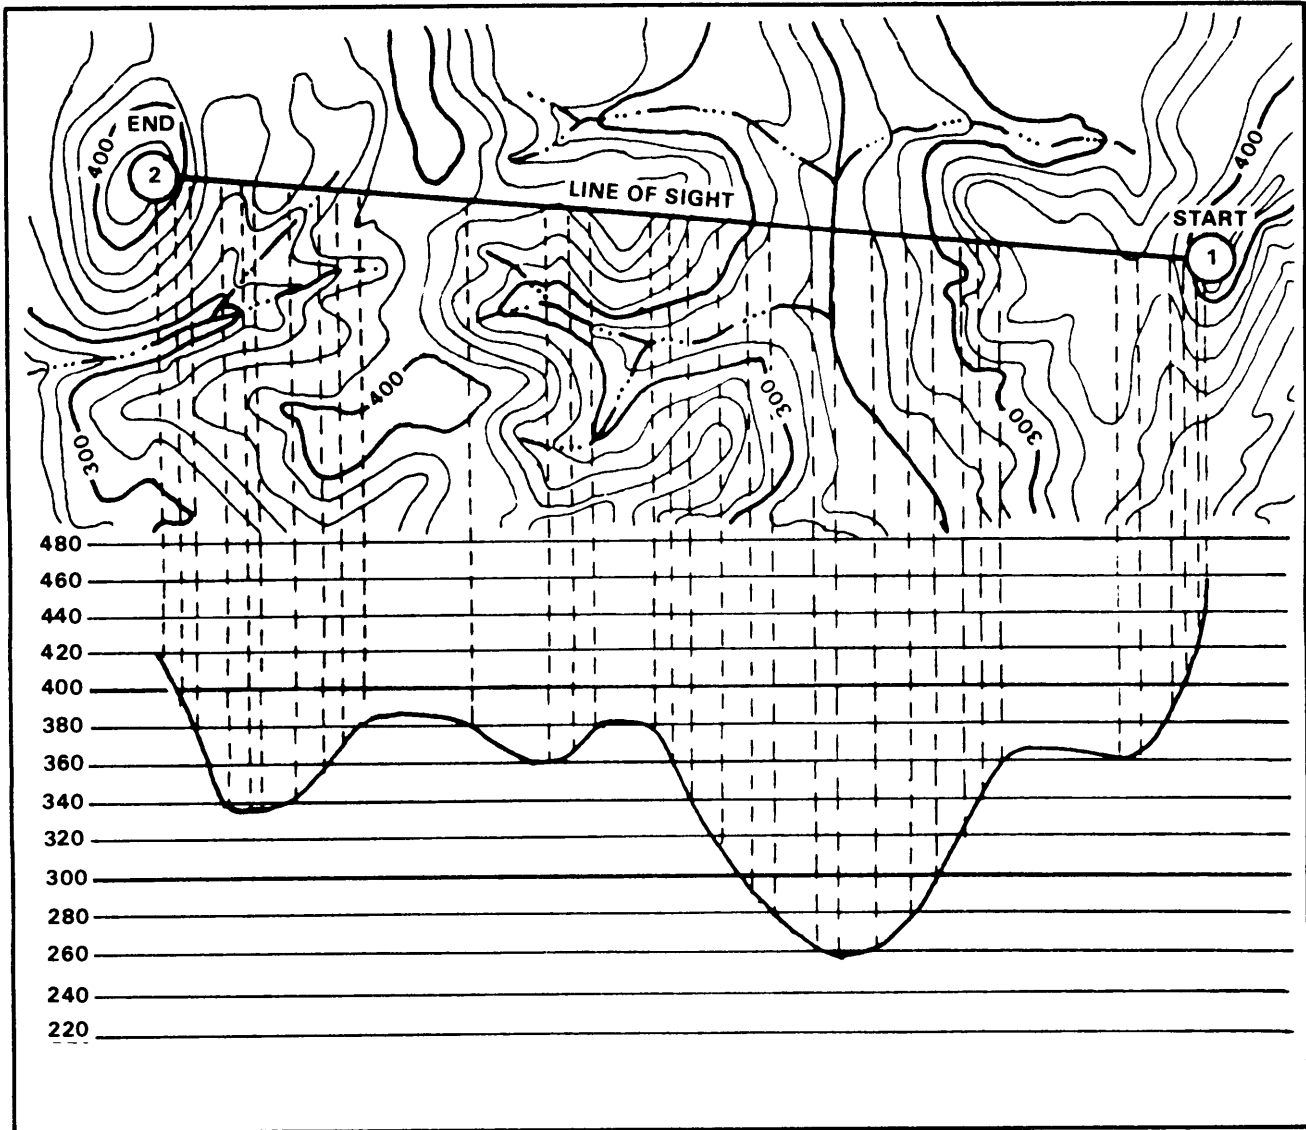

Figure 6-28. Marking of elevation.
(2) Draw perpendiculars down across the horizontal lines for each marked point, and identify the high and low points along the profile (Figure 6-28).